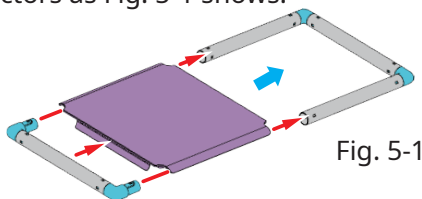

Fig. 5-1
- (1) Insert and fix the tubes on the back of the SQUARE FLAT, and then connect the connectors as Fig. 5-1 shows.